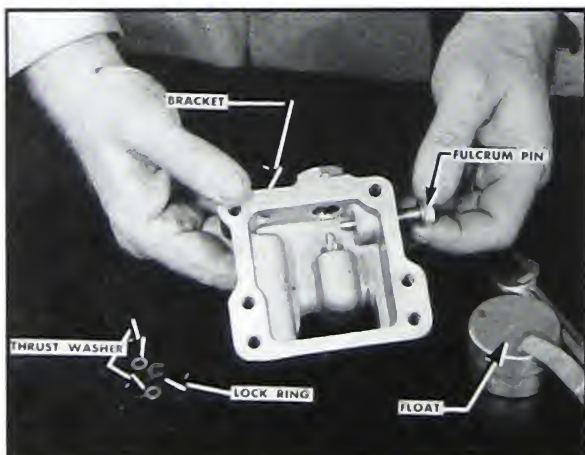

Fig. 5-272. Remove fulcrum pin
2. Pull the retaining ring and remove the washer from the fulcrum pin. Unscrew the fulcrum pin from the float bracket and remove the float. Fig. 5-272.